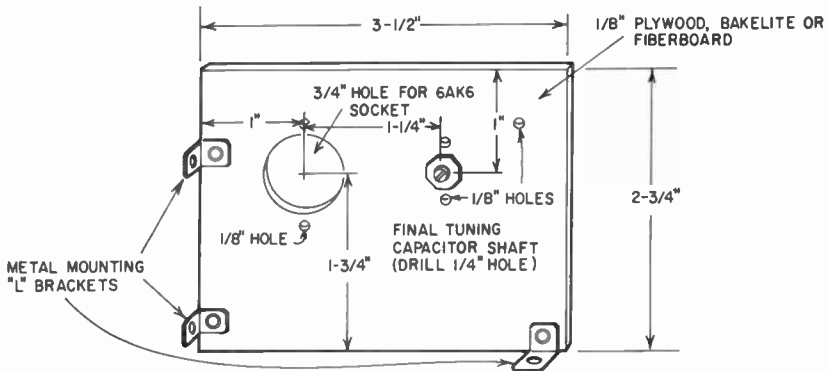

Fig. 701. Template for cutting insulated plywood board. (This template is not drawn to scale.)
1. Cut a plywood board to size, as shown in Fig. 701.